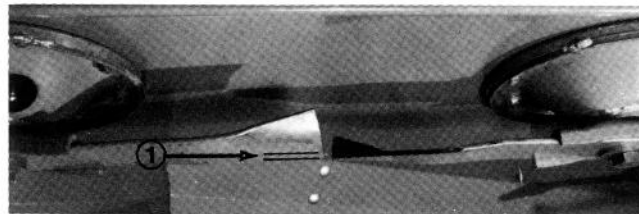

Figure 40
6. Rotate blades so tips line up with one another (Fig. 40). Tips of the adjacent blades must be within 1/8 inch (3 mm) of each other. If tips are not within 1/8